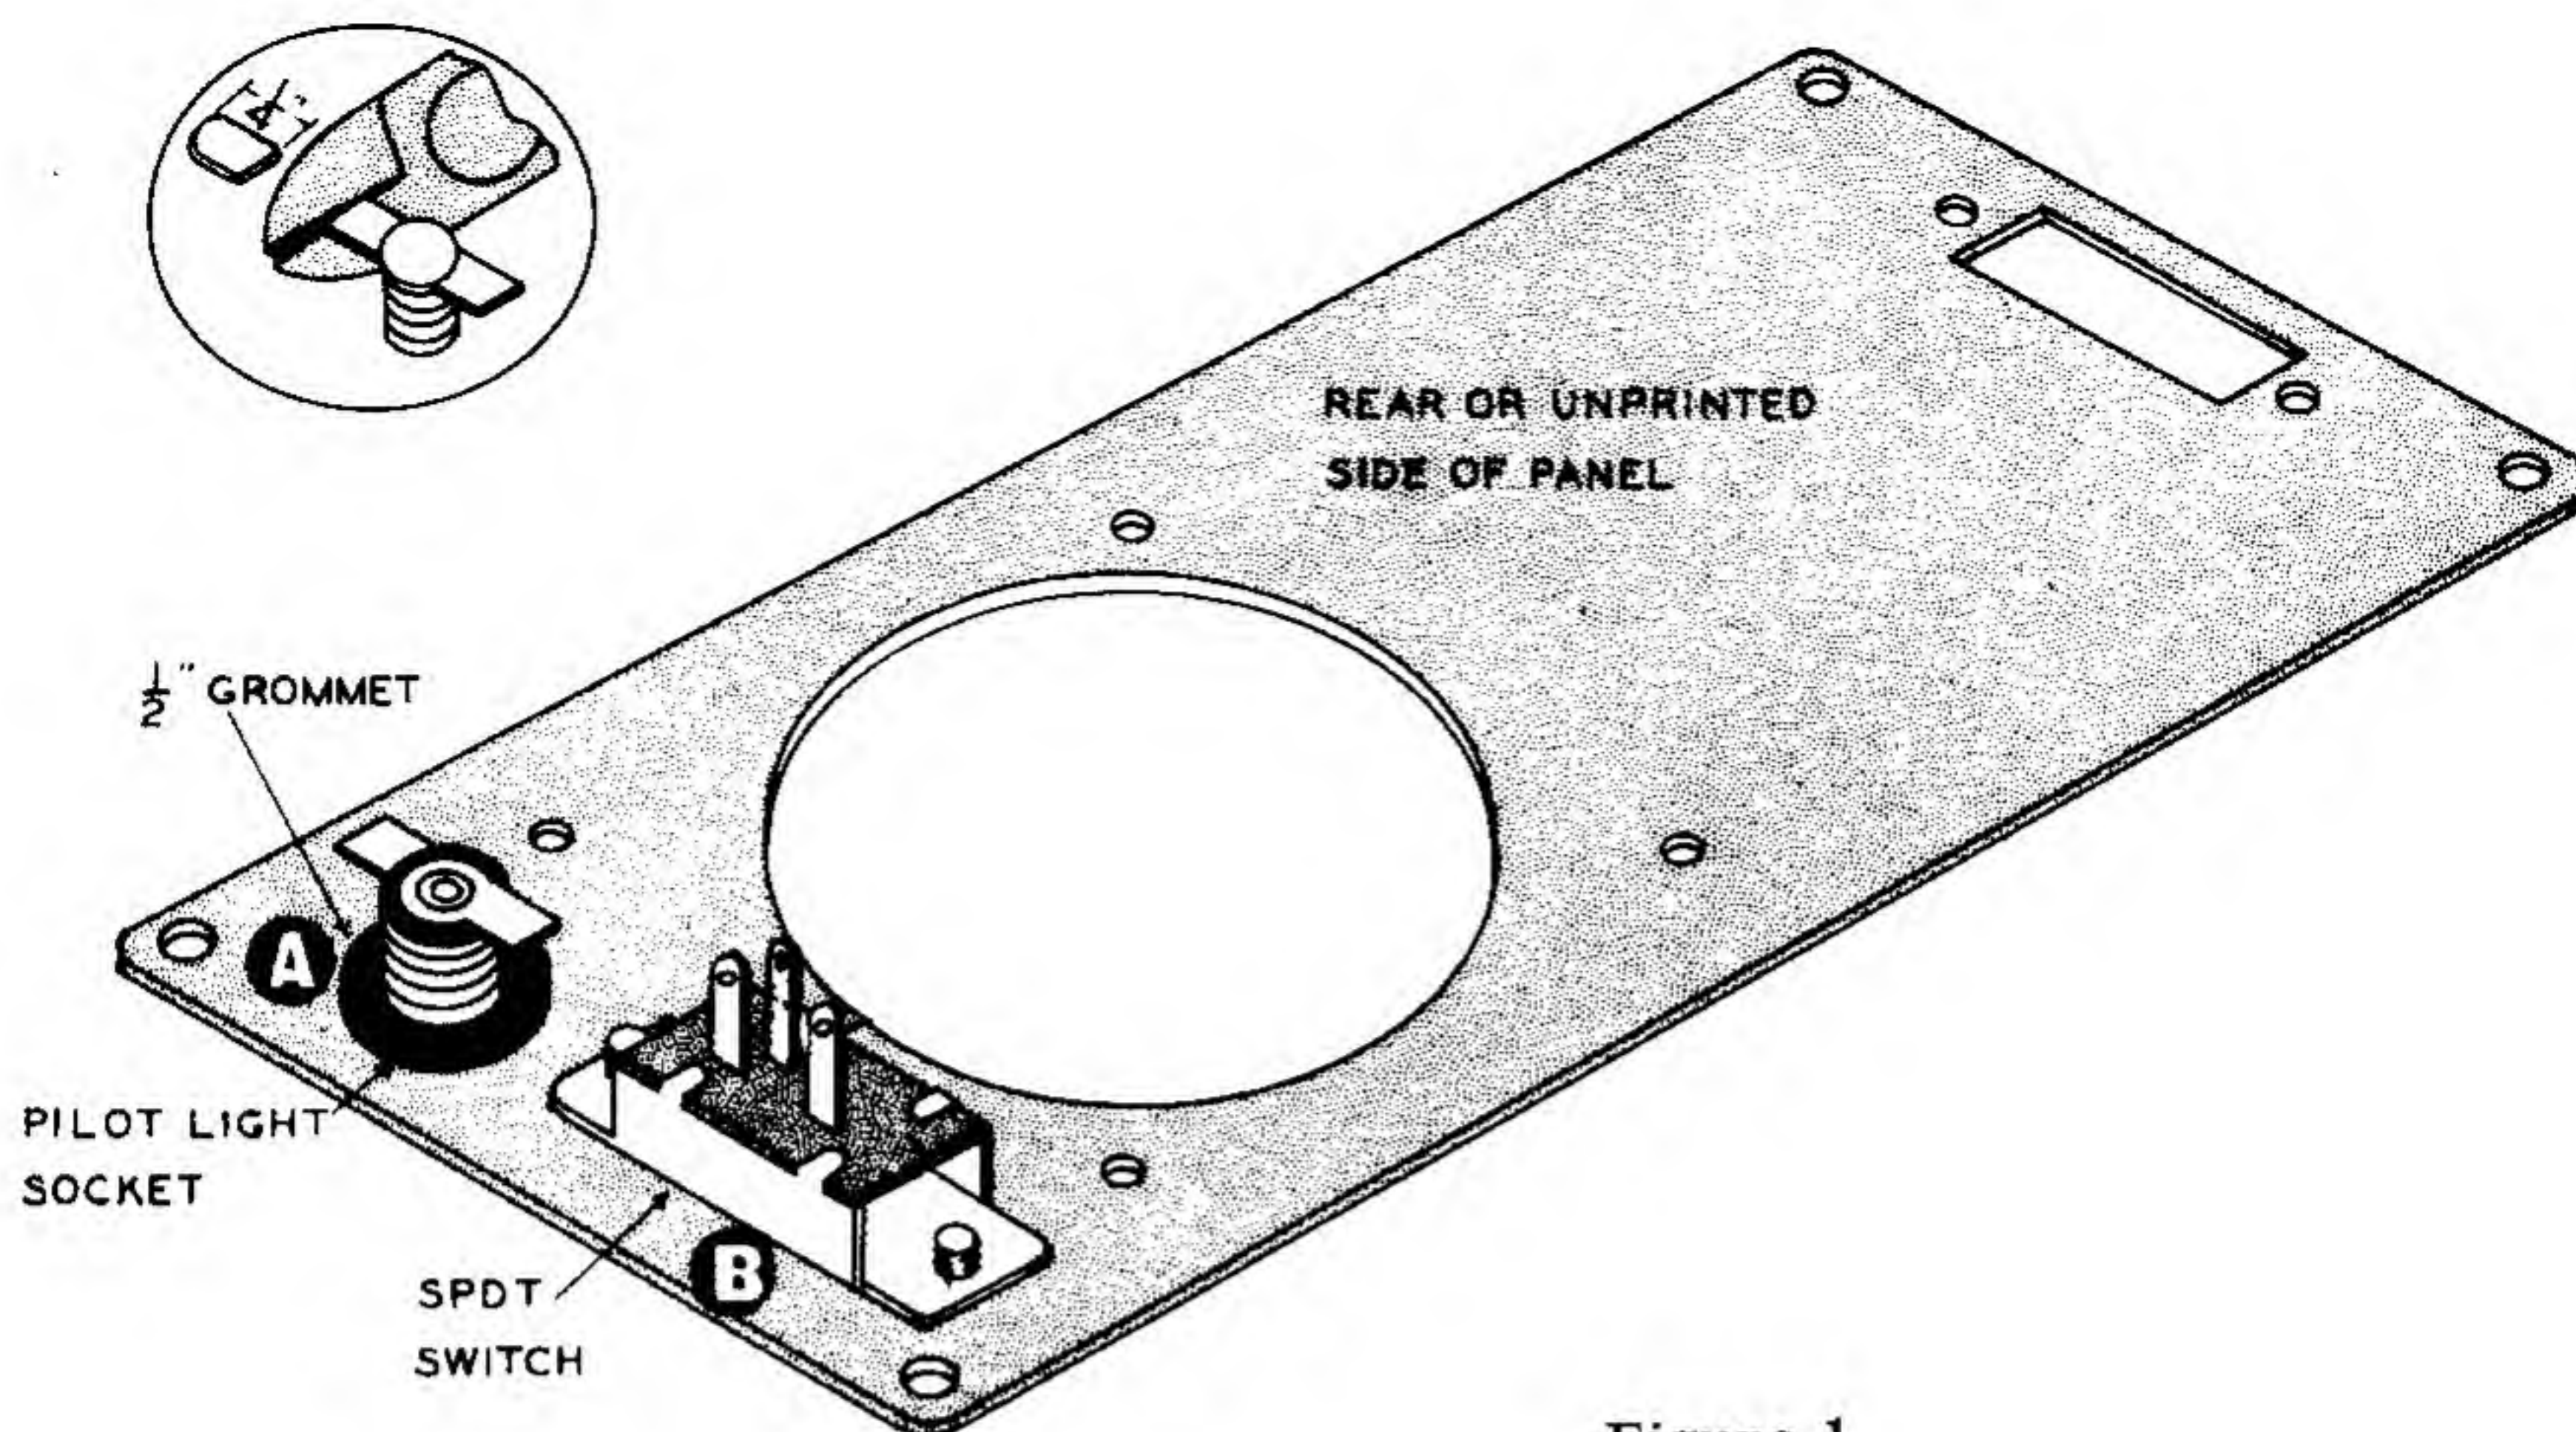

Figure 1
- () Mount the 1/2" rubber grommet in hole A. Refer to Figure 1.
- () Moisten the inside edge of the 1/2" grommet with soapy water, or a similar slippery substance. From the rear side of the panel, work the pilot light socket through the grommet until it emerges flush with the grommet on the front side of the panel. Rotate the socket until the terminals face as shown in Figure 1.
- () Mount the SPDT (Single Pole Double Throw) slide switch in hole B with the center terminal of the switch facing toward the large speaker hole. A nut and lockwasher is not necessary. Use two 6-32 x 1/4" BHMS (Binder Head Machine Screws). See Figure 1.